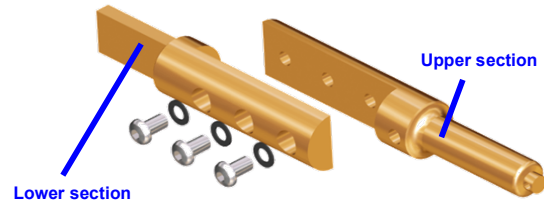

Fig. 14
- Assemble both draw lead terminal lug sections (upper and lower) using the three screws and washers included with the lower section (fig. 14), type 5/16” - UNF. Tighten the screws by a moment of 13 Nm.